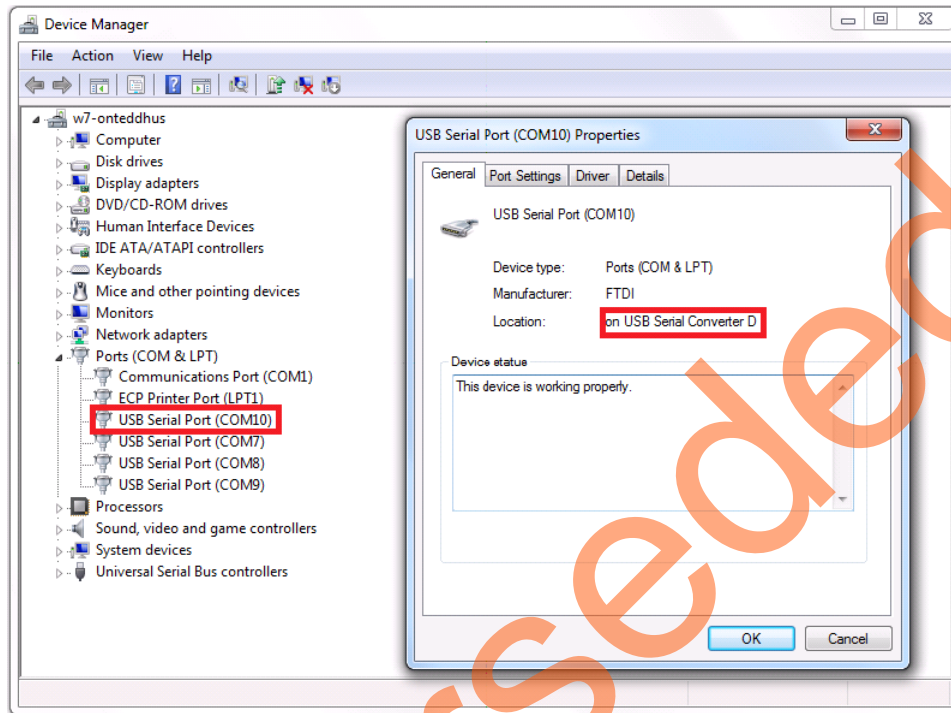

Figure 38 • Device Manager Window
2. Connect the host PC to the J18 connector using the USB Mini-B cable. The USB to UART bridge drivers are automatically detected. Of the four COM ports, select the one with Location as **on USB Serial Converter D**. Figure 38 shows an example Device Manager window.